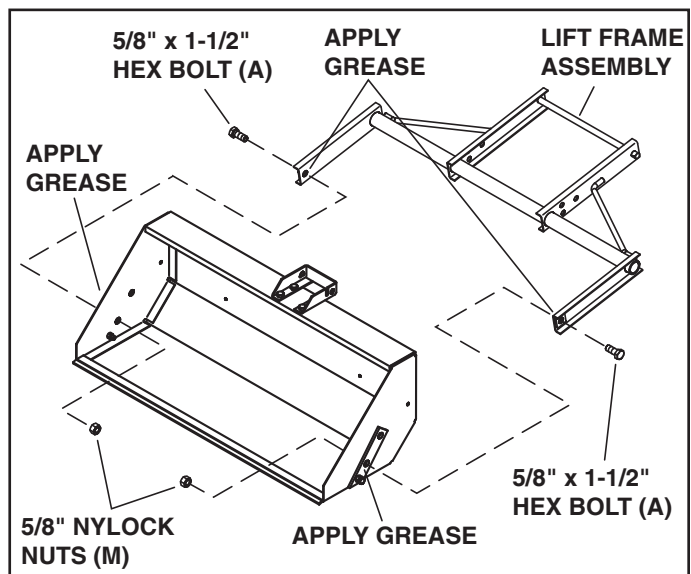

FIGURE 2
STEP 3: INSTALL LIFT FRAME ASSEMBLY (SEE FIGURE 2)
- Assemble the lift frame assembly to the bucket assembly using two 5/8" x 1-1/2" hex bolts (A) and 5/8" nylock nuts (M). **Tighten, then loosen** the nuts 1/4 turn, or until the lift frame pivots freely.